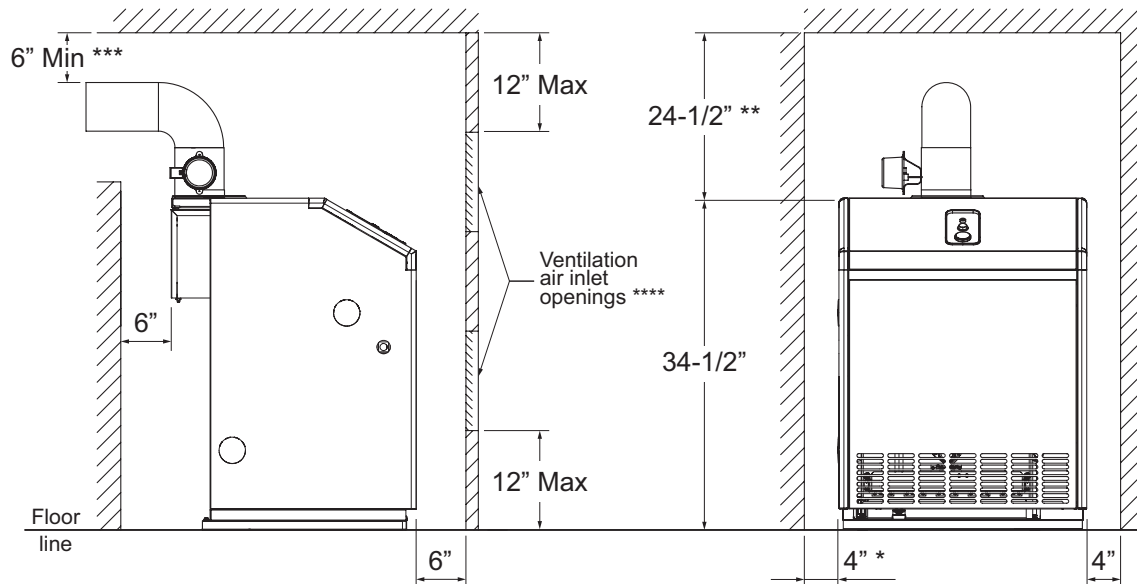

Figure 4.1 (Minimum clearance from boiler to all types of combustible construction and noncombustible ceilings, walls and doors (closet))
- Observe minimum clearances shown below to avoid potential fire hazard. These clearances apply to all combustible construction as well as noncombustible walls, ceilings and doors. Also see Figures 4.1 and 4.2.
- A 24" service clearance from the jacket is recommended on the left, right, and front of the boiler. These clearances may be reduced to those shown in Figures 4.1 & 4.2 , however servicing the boiler will become increasingly difficult as these service clearances are reduced.